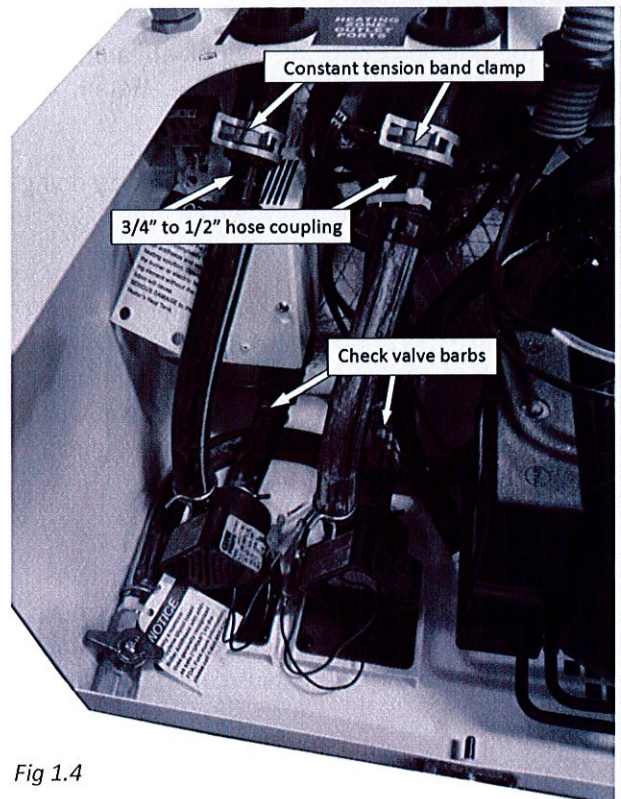

Fig 1.4
5. Using the red-handled drain valve, drain all tank antifreeze solution into a clean container. Retain antifreeze for reuse (see fig 1.4).
7. Slide the upper constant tension band clamp up and off of the 3/4" to 1/2" hose coupler. Retain clamp for reinstallation (see fig 1.4).
8. Remove the coupler and the hose. The hose and coupler will not be reused (see fig 1.4).
9. Remove the hose from the check valve barb by sliding the single wire tension clamp off of the barb. This hose and clamp will not be reused (see fig 1.4).